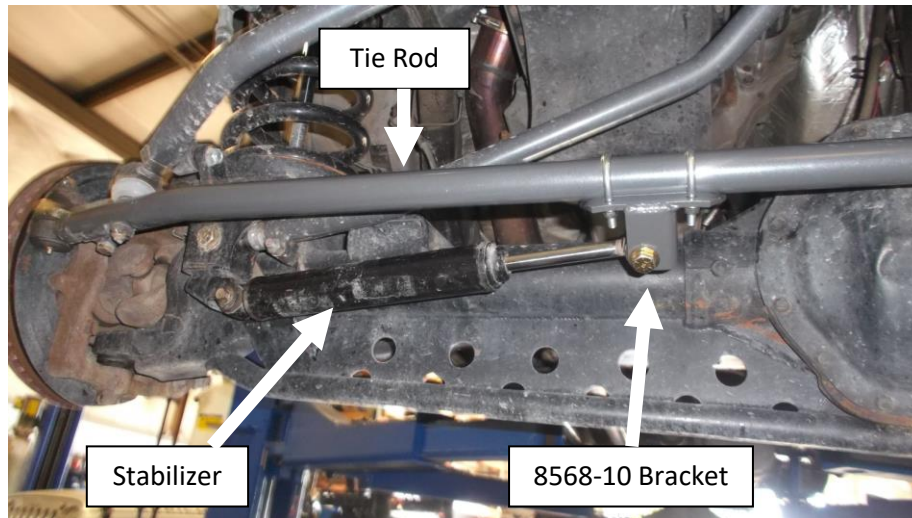

Figure 22. Steering Stabilizer Shown Mounted to 8568-10 Bracket
14. With stabilizer installed into 8568-10 bracket, position bracket onto tie rod so there is no bind in the stabilizer bushings with the steering pointed straight. Make sure bracket sits flat on the tie rod and install u-bolts. Use a washer under the nylock nuts and torque to 15 lb-ft. Do not overtorque! See **Figure 22**.